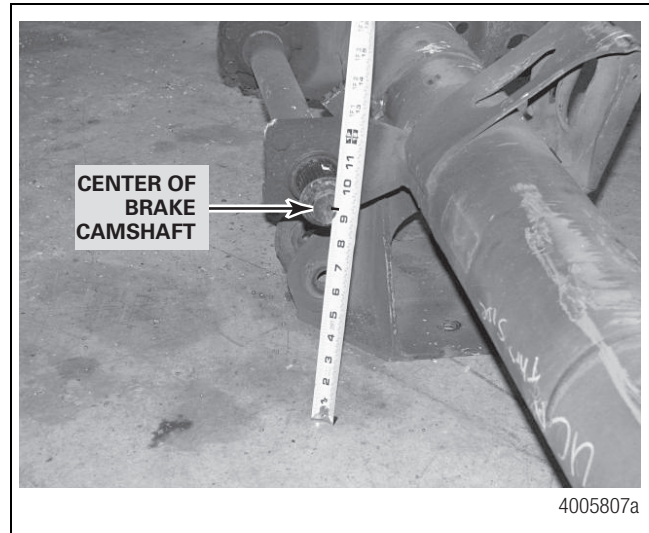

Figure 18
7. Measure from the center of the splined end of the camshaft to the flat surface that the axle seats are on. Rotate the axle to match the dimension recorded before the old axle seats were removed. This will help maintain the correct camshaft location to ride height. Figure 18.